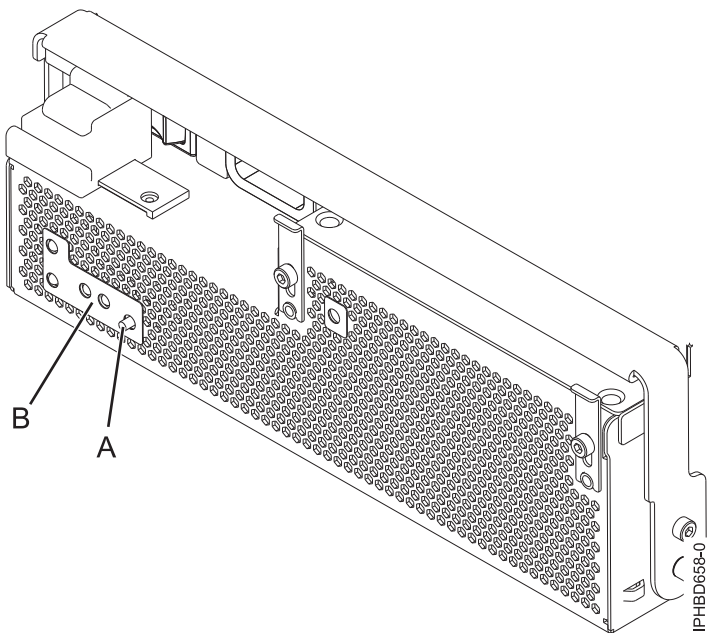
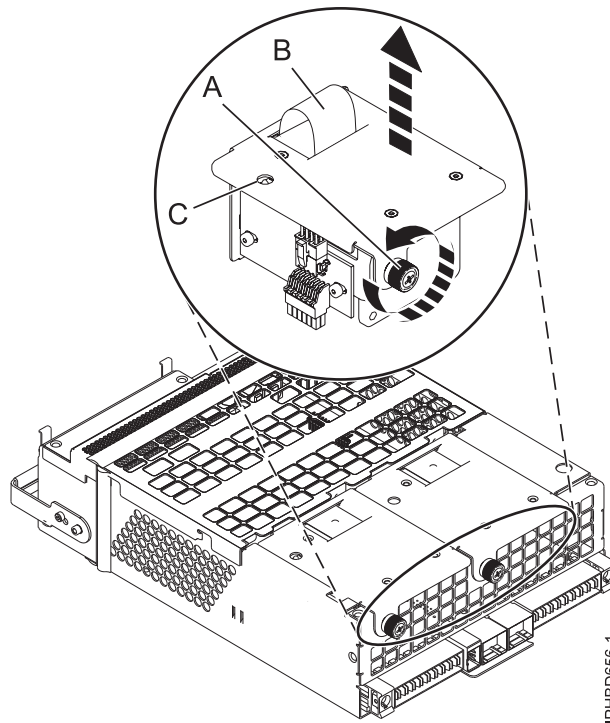

Figure 60. Fan fault LED and fan identify button
Figure 61. Removing a fan
Note: If a fan fails, the amber fan fault LED (**B**) on the front of the offline converter assembly (OCA), as shown in Figure 60, is on solid.
- a. To identify the failing fan. Press the fan identify button (A), as shown in Figure 60 on page 73. An amber left or right fan-fault LED (C) on solid, as shown in Figure 61, indicates the faulty fan.
- b. Loosen the thumbscrew (A) that holds the fan in the power-supply assembly, as shown in Figure 61.
- c. Use the recessed fan handle (B) to lift the fan from the power-supply assembly, as shown in Figure 61.